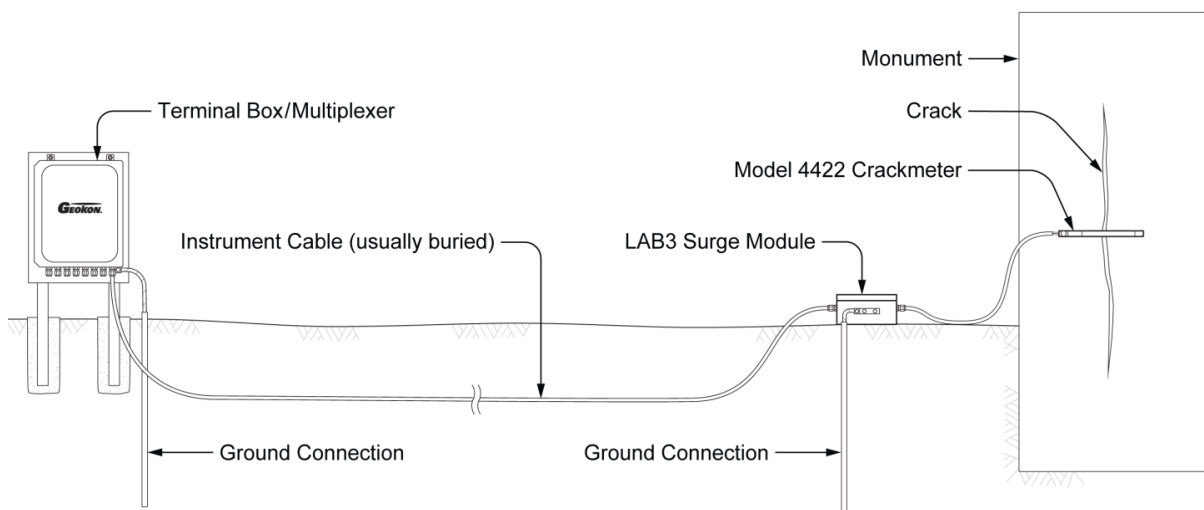

Figure 3 - Lightning Protection Scheme
- Lightning arrestor boards and enclosures are also available from GEOKON. These units install where the instrument cable exits the structure being monitored. The enclosure has a removable top to allow the customer to service the components or replace the board if the unit is damaged by a lightning strike. A connection is made between the enclosure and earth ground to facilitate the passing of transients away from the displacement transducer. See Figure 3.